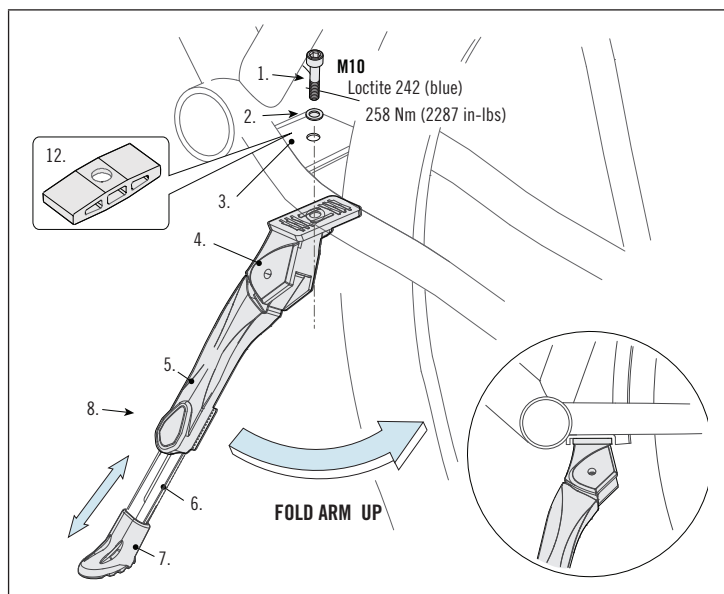

Figure 2.
Installation & Adjustment : (Figure 2.) Install the center mount kickstand only onto frames having center mounting bracket (3). Apply a medium strength removable thread locking agent to the bolt (1) threads. Insert the bolt and washer (2) through the bracket and thread into the kickstand (4). Tighten bolt to the specified torque. The length of the folding arm (5) is adjustable. To do it, loosen the set screw (8) with a Phillips screw driver, set extending arm (6) length so the foot (7) is positioned on the ground. Tighten the set screw (8) securely when finished.